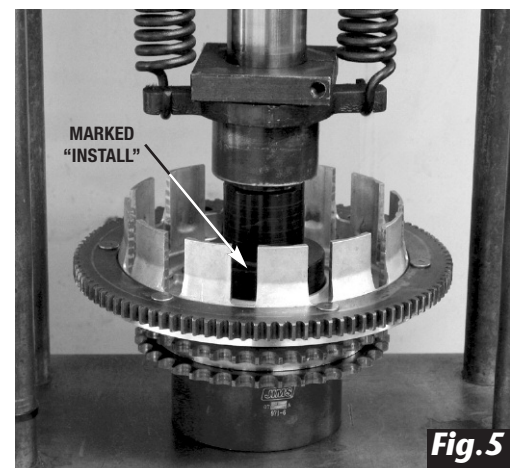

Fig. 5
8. Place No.4, clutch shell pedestal on the press with shallow recessed side facing up. Place the clutch shell on pedestal stand so that the bearing bore area sits squarely on the pedestal. See Fig 5.
on clutch shell and place No.1 bearing installer tool with laser marked "INSTALL" side facing bearing and shell. Line up ram and press bearing into the clutch shell. See Fig 5.